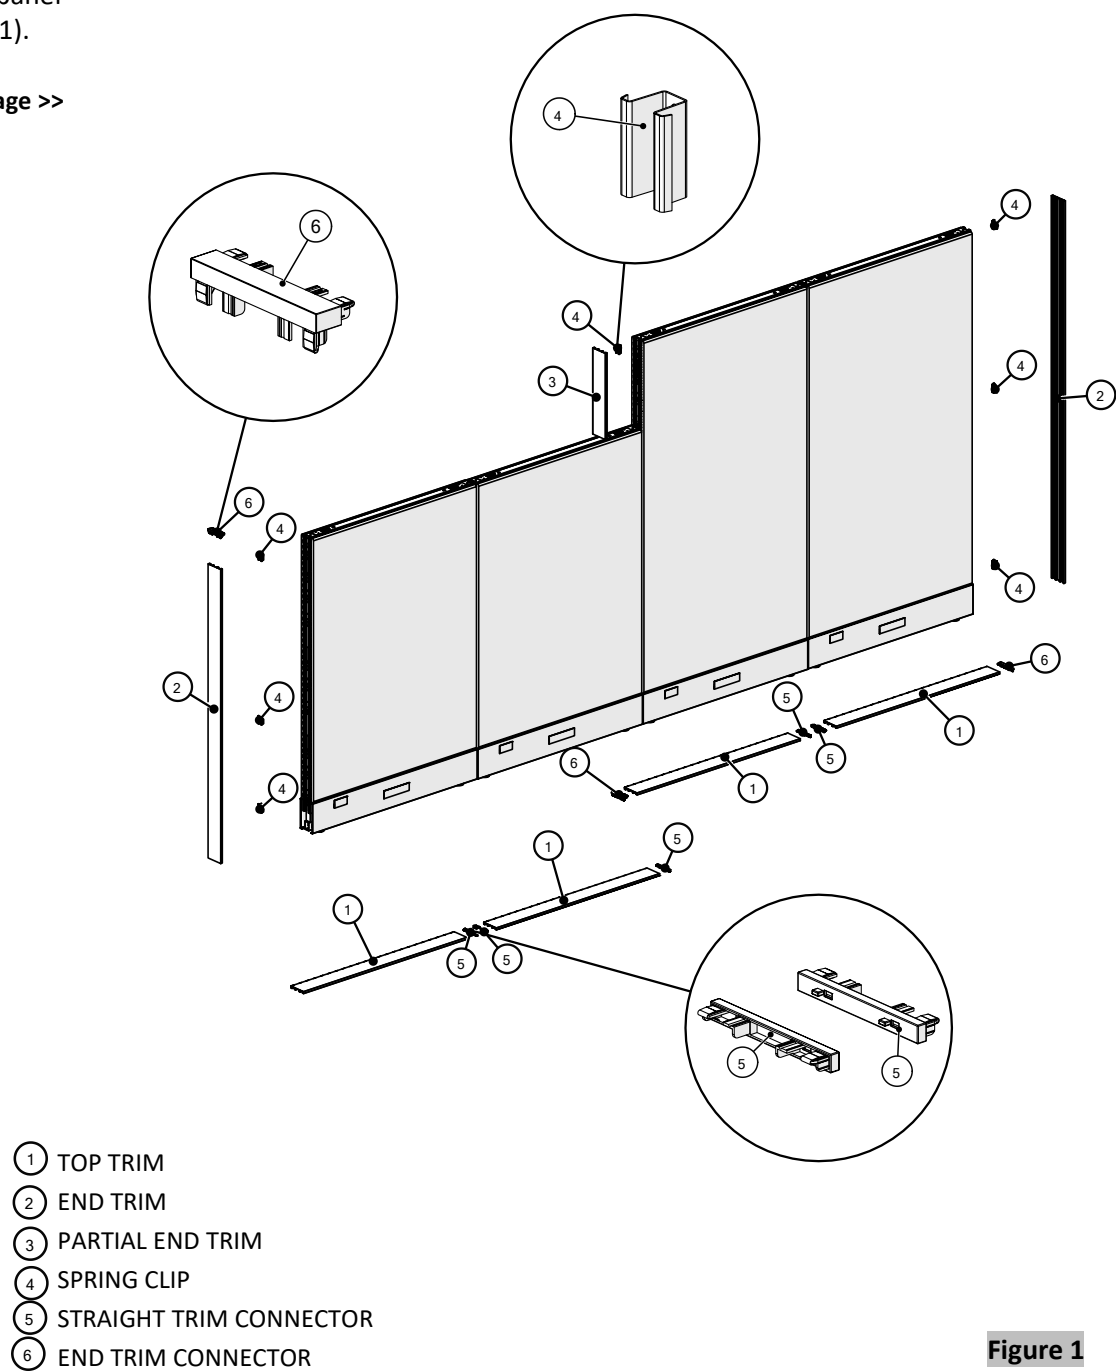

Figure 1
- 1. Sort out all top trims and end trims according to panel frame size, (Figure 1).